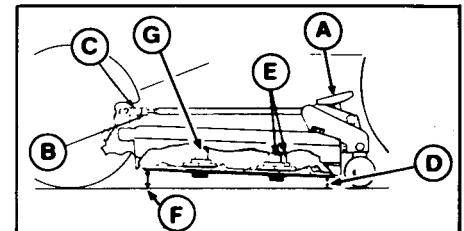

Figure 26. Level Mower
2. Turn both mower height adjustment handles (A, figure 26) fully clockwise to the highest cutting height position.
3. Rotate the mower blades so the tips point straight forward and backward as shown in figure 26.
- a. Loosen the jam nuts (B, figure 26).
- b. Remove the cotter pins and then disconnect the yokes (C, figure 26) from the mower hitch.